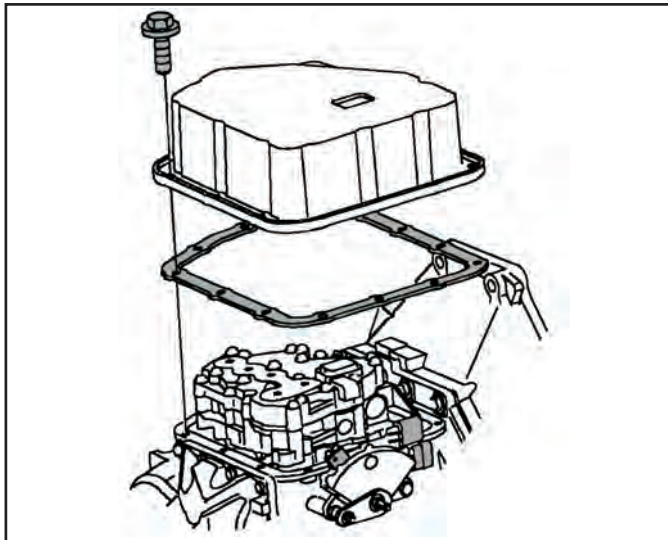

Figure 220
57. Install a new valve body cover gasket onto the case (See Figure 220).
58. Carefully place the valve body cover pan onto the case being careful not to damage the actuator connector (See Figure 220).